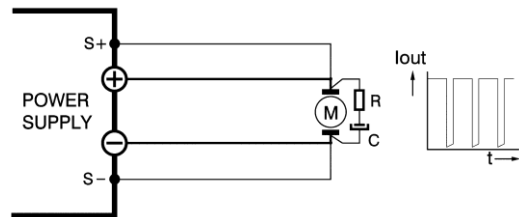

Figure 7.10: Remote sensing on a pulsating load.
- In this case a large electrolytic capacitor (Cd) in series with a damping resistor (Rd) both in parallel with the load will help, see Figure 7.10. Check that the capacitor Cd in combination with the load leads and resistor Rd forms a well damped circuit.